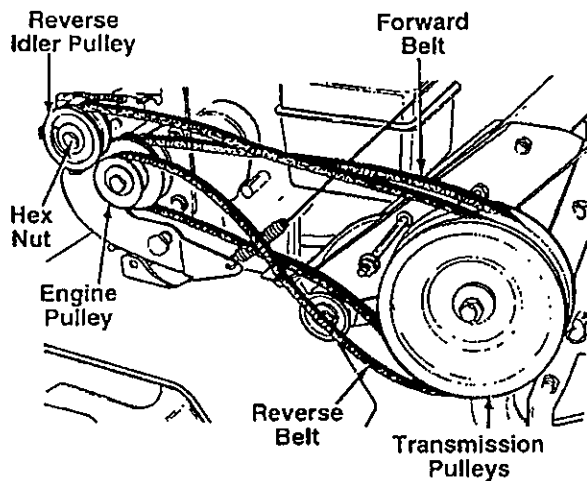

FIGURE 16
4. Remove the hex nut which secures the reverse idler pulley to the idler bracket. See figure 16, Slide idler pulley out and remove the belt.
**FORWARD DRIVE BELT (Refer to Figure 16)**